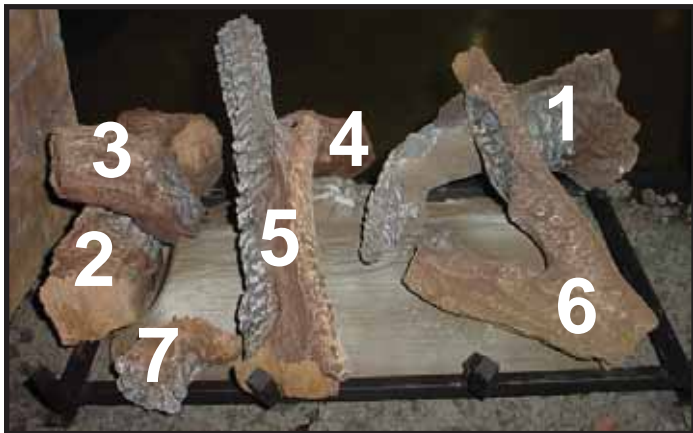

Figure 9.2 Placement of Ember Materials
- When placing Glowing Embers® onto the burner care should be taken so that the ports are not covered. Place the dime-size ember pieces just in front of the port trail, but not on or in between the ports (see Figure 9.2). Failure to follow this procedure will likely cause lighting and sooting problems.